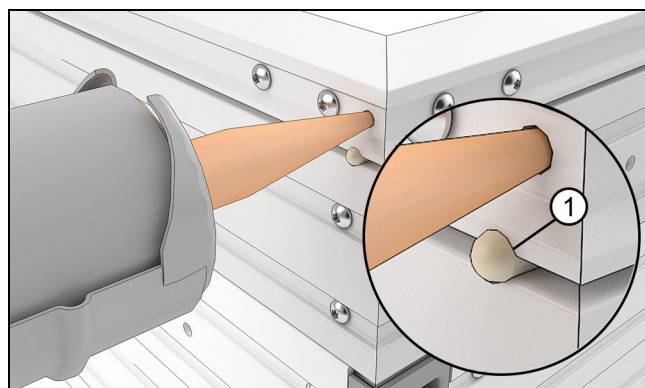

Figure 51
9. Inject the head jamb corner keys until there is squeeze out showing in the inspection hole. See Figure 51.